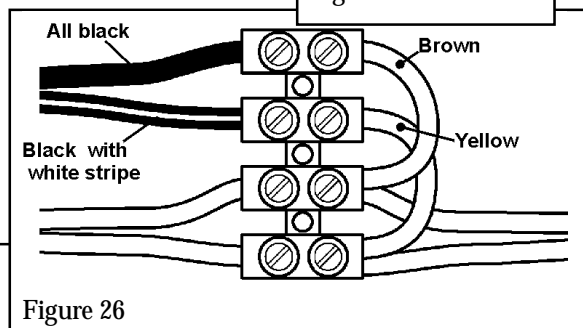

Figure 26
- Securely connect the leads to the terminal block. **Connect the black lead to the terminal opposite the brown lead. Connect the lead with the white stripe to the terminal opposite the yellow lead.** See figure 26.